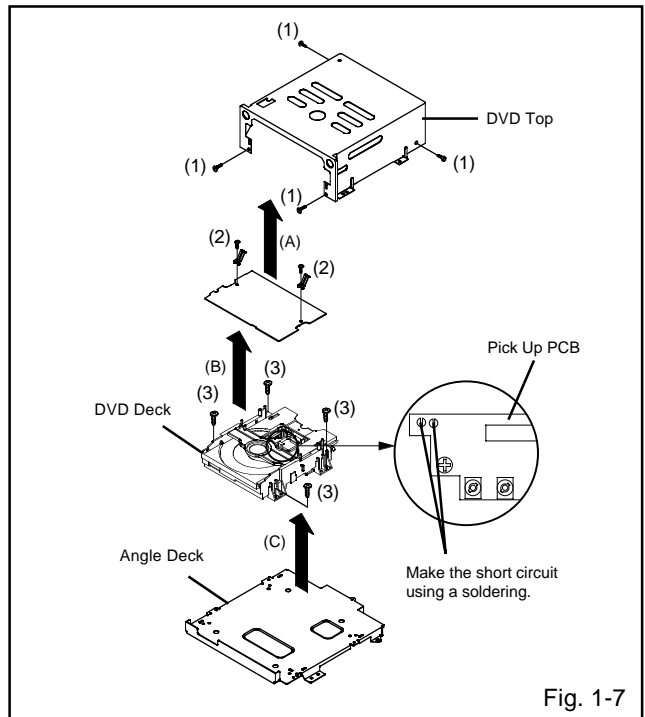

Fig. 1-7
1-7: DVD PCB/DVD DECK (Refer to Fig. 1-7)
1. Make the short circuit on the position as shown **Fig. 1-7** using a soldering. If you remove the DVD Deck with no soldering, the Laser may be damaged.
2. Remove the 4 screws (1).
3. Remove the DVD Top in the direction of arrow (A).
4. Remove the 2 screws (2).
5. Remove the DVD PCB in the direction of arrow (B).